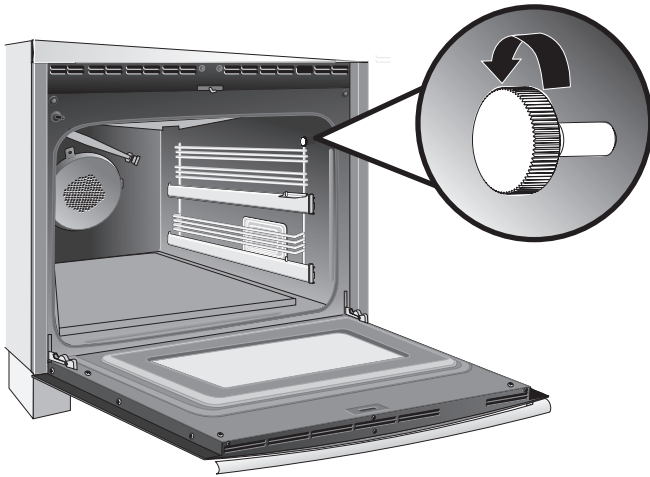

Figure 16: Ladder rack thumb screw
1. Remove the thumb screws located on each side of the oven cavity (see Figure 16).